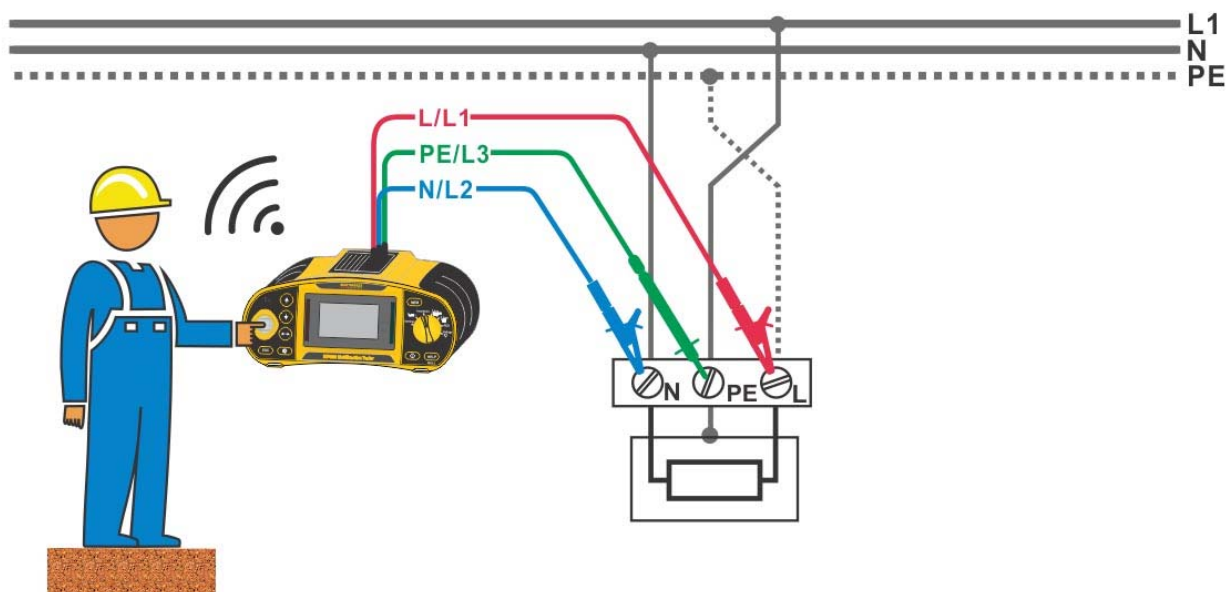

Figure 5.40: PE and Neutral at phase potential and Live earthed
- ❑ **Connect** the test leads to the installation under test (see *Figure 5.40*)